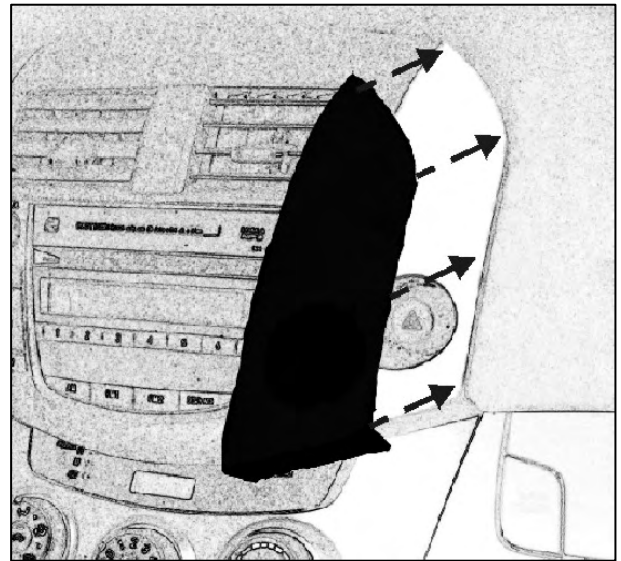

Fig. 9-1
- iii) Align part uniformly to edge of factory components. (Fig. 9-1)